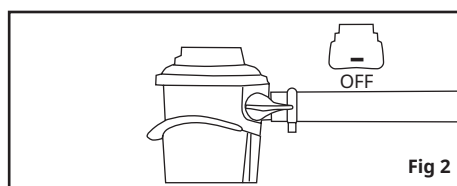

Fig 2
- Make sure the regulator knob is in the "closed" position (this happens when on the regulator knob is visible a red rectangle with the marking "OFF") (Fig2).